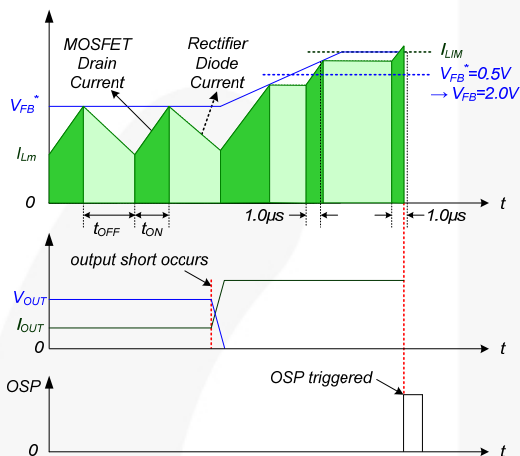

Figure 22. Output-Short Protection
**4.3. Output-Short Protection (OSP):** If the output is shorted, steep current with extremely high di/dt can flow through the SenseFET during the minimum turn-on time. Such a steep current brings high-voltage stress on the drain of the SenseFET when turned off. To protect the device from this abnormal condition, OSP is included. It is comprised of detecting  $V_{FB}$  and SenseFET turn-on time. When the  $V_{FB}$  is higher than 2.0V and the SenseFET turn-on time is lower than 1.0 $\mu$ s, this condition is recognized as an abnormal error and PWM switching shuts down until  $V_{CC}$  reaches  $V_{START}$  again. An abnormal condition output short is shown in Figure 22.